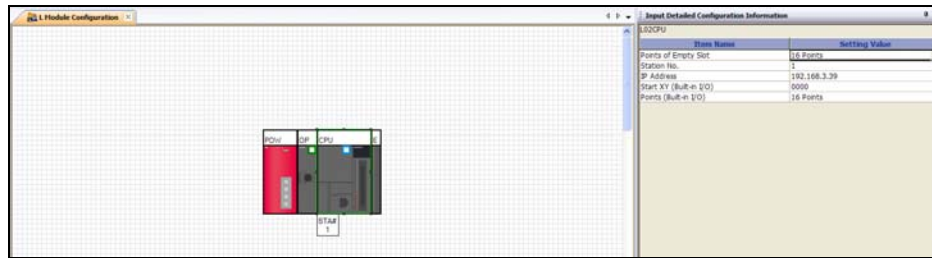

Figure 4 – L02CPU Module Configuration
- b. The PLC Module was configured with the proper Station Number and IP address using “Input Detailed Configuration Information” screen as shown in Figure 4.